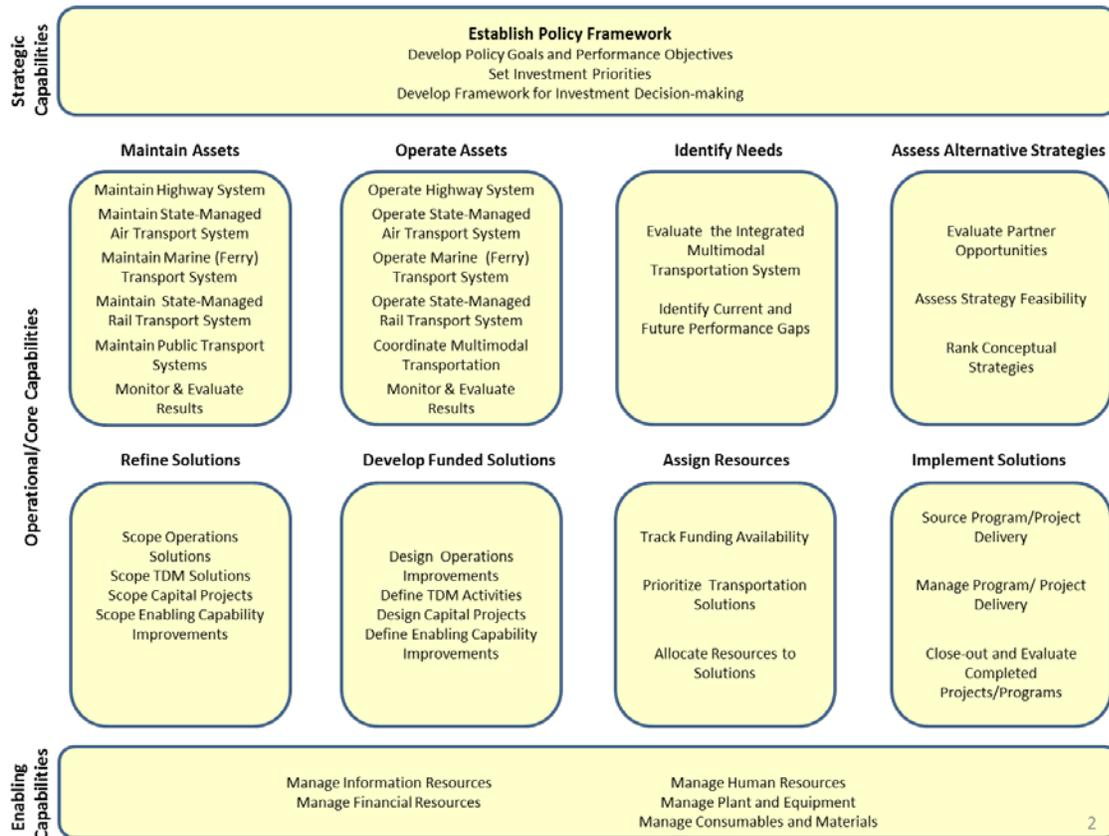

Figure 2. WSDOT Future “Business on a Page”
- Figure 2. WSDOT Future “Business on a Page” 3
Figure 2 illustrates a “business on a page” – with one block for each of the PS process steps. There is one model for each block shown, with the exception of the enabling capabilities, which were not included in the process mapping. However, references to improving WSDOT’s enabling capabilities can be found throughout the resource models.